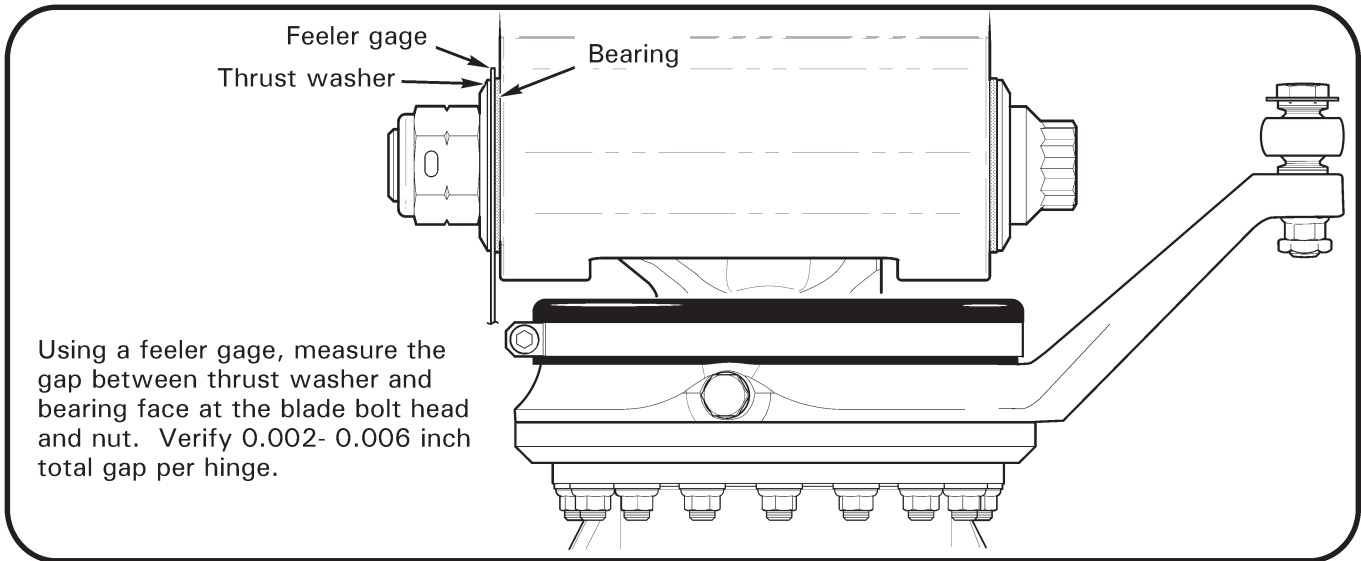

FIGURE 26-8 MEASURING CONING HINGE AXIAL GAP
5. Adjust journal combination as required to meet coning hinge axial gap requirement per Figure 26-8 and to maintain teeter friction requirement as follows: It must be possible to manually cone each blade without teetering the hub when blades are held up off the droop stops and lifted at tip.
- a. B370-1 Hub: Adjust coning hinge friction by changing trailing-edge shim stack thickness in small increments; reducing shim stack thickness increases friction, increasing shim stack thickness reduces friction. Coning hinge friction is zero when there is a measurable axial gap per Figure 26-8. Install shims, thrust washer, and nut.
- b. A154-1 Hub: Adjust coning hinge friction by changing trailing-edge journal length in small increments; using a shorter journal increases friction, using a longer journal reduces friction. Coning hinge friction is zero when there is a measurable axial gap per Figure 26-8. Install journal, thrust washer, and nut.